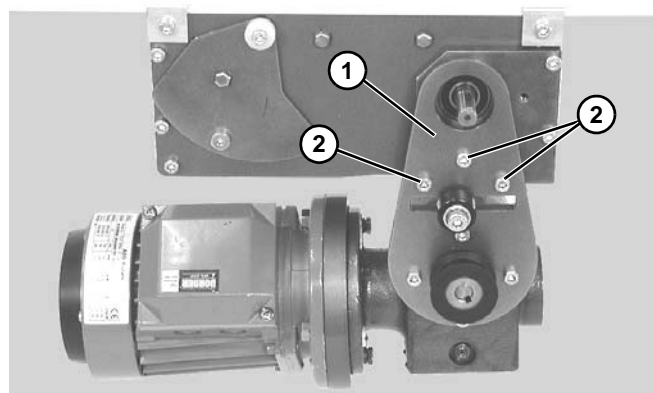

Figure 8
- Attach mount assembly (**Figure 8, item 1**) with mounting screws (**Figure 8, item 2**). Install long screws on bottom. Tighten screws to 80 in-lb (9 Nm).